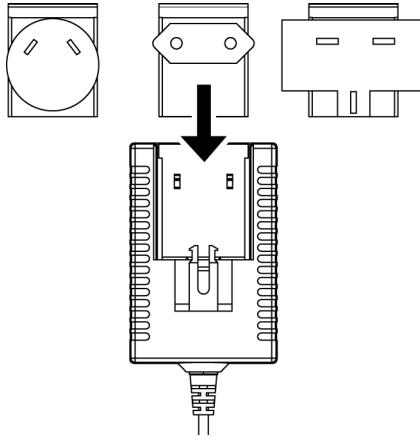

Fig. 7 PS4 Universal AC/DC Power Supply
- Squeeze both sides of the PS4 latch lock (see Fig. 7).